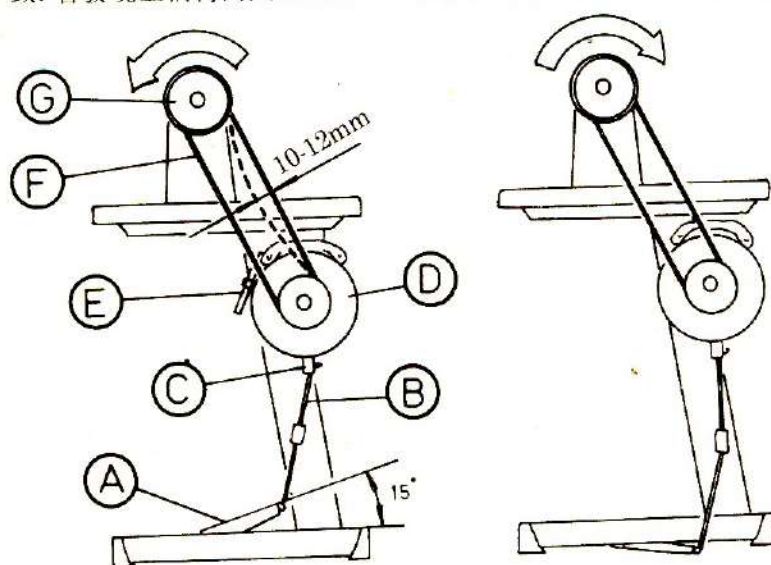

Fig.5
(6) To connect the treadle with the clutch pull rod (fig.5)
①The proper angle of the treadle to ground is 15°
②Align the machine pull rod (B) and the clutch pull rod (C) according to fig 5 by adjusting the motor clutch to reach smooth operation and less vibration.
③Rotating direction of the machine